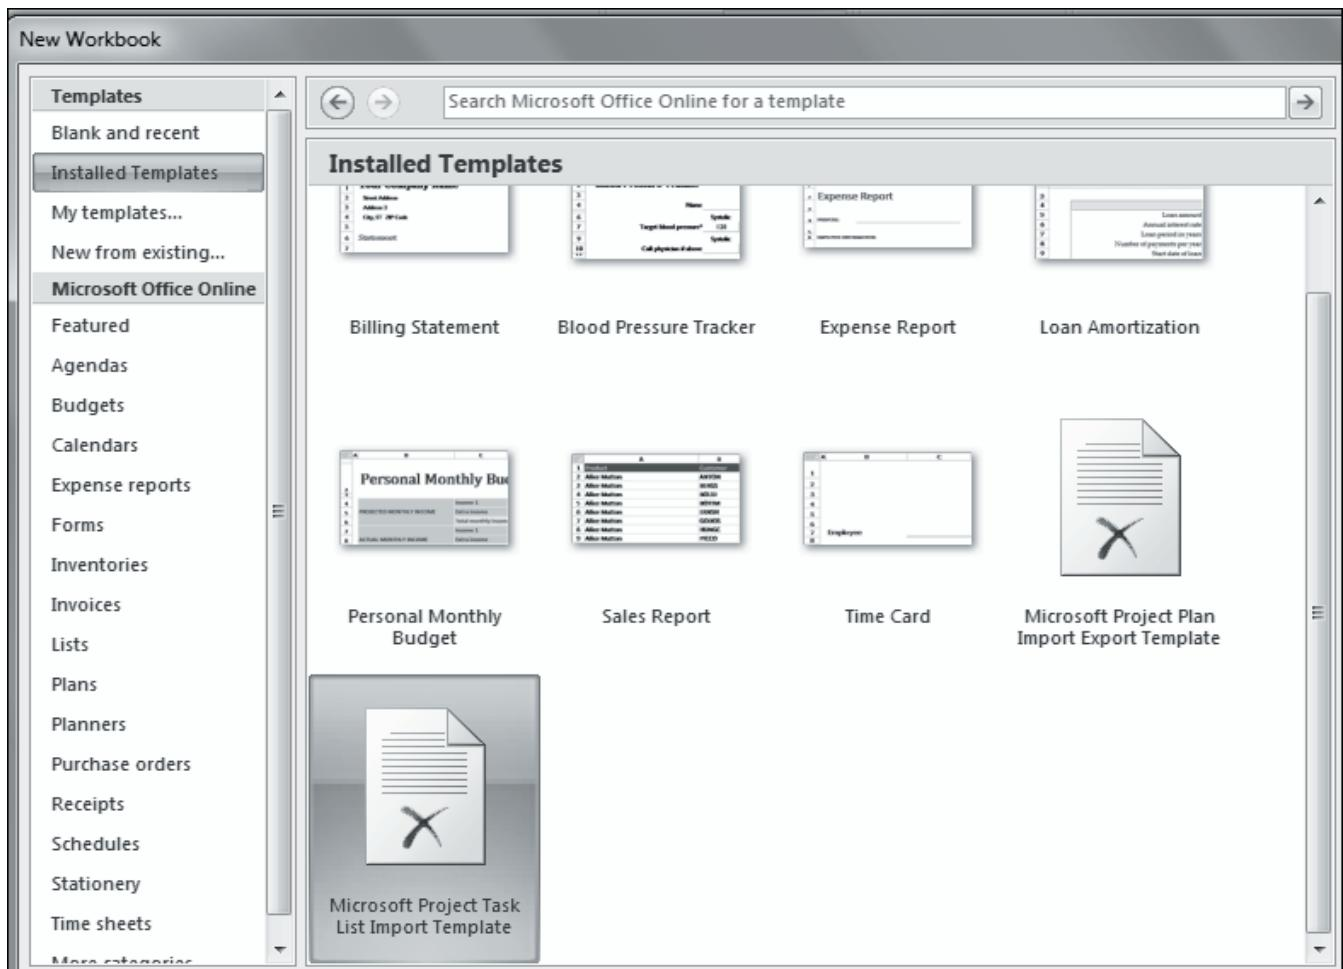

Figure 4.6: MS Project Import Templates in Excel 2010
1. Open MS Excel 2010 and open the **File** tab. Click **New** in the Backstage view and select the **Installed Templates** option to display **Microsoft Project Plan Import Export Template** and **Microsoft Project Task List Import Templates** as shown in figure 4.6.
Figure 4.6 illustrates display of MS Project Import Templates in Excel 2010.